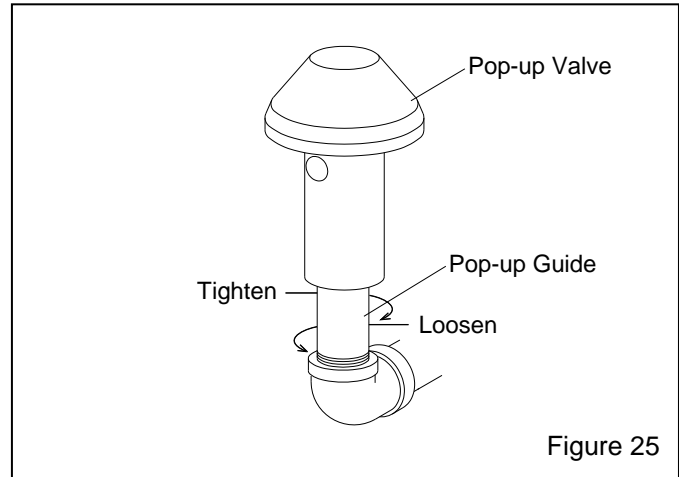

Figure 25
7.8 Pop-up Valve Replacement, Figure 25
7.8.4 Use a short pipe wrench to unscrew the pop-up valve guide as shown in Figure 25, by turning it counterclockwise. Remove the pop-up valve and guide from the machine.